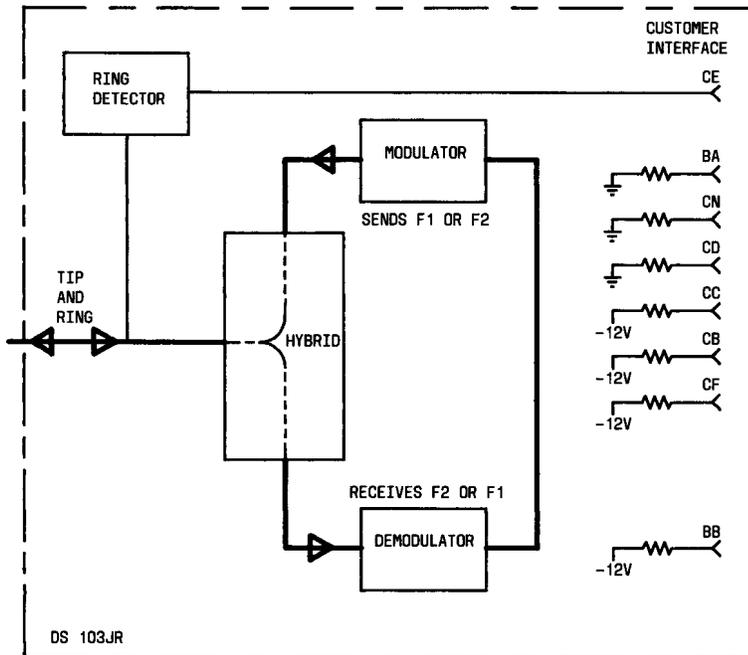

Fig. 4—Digital Loopback Test Mode
**2.12** Entering the digital loopback test mode (Fig. 4) causes the data set internally to loop BB (receive data) to BA (send data) and simulate an *on* condition of the CD (data terminal ready) circuit. In addition, this causes the following to occur: